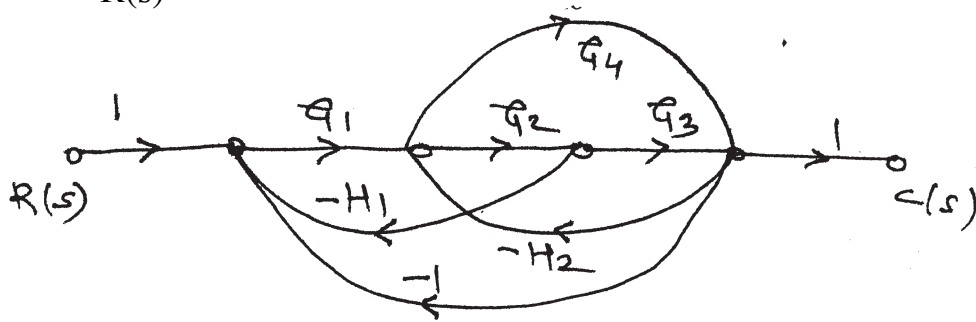

fig 2a
- 2) a) Find $\frac{C(s)}{R(s)}$ for the system signal flow graph as shown in fig. 2a. [10]